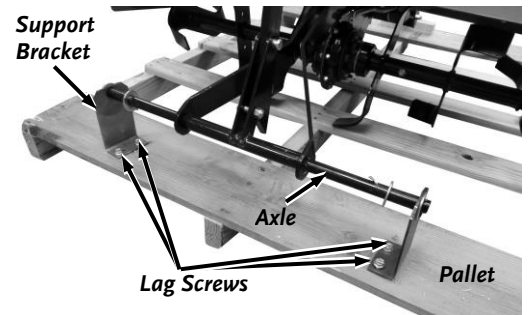

Figure 4
2. Use a 1/2" Wrench to remove the four Lag Screws securing the Support Brackets to the Pallet (**Figure 4**).